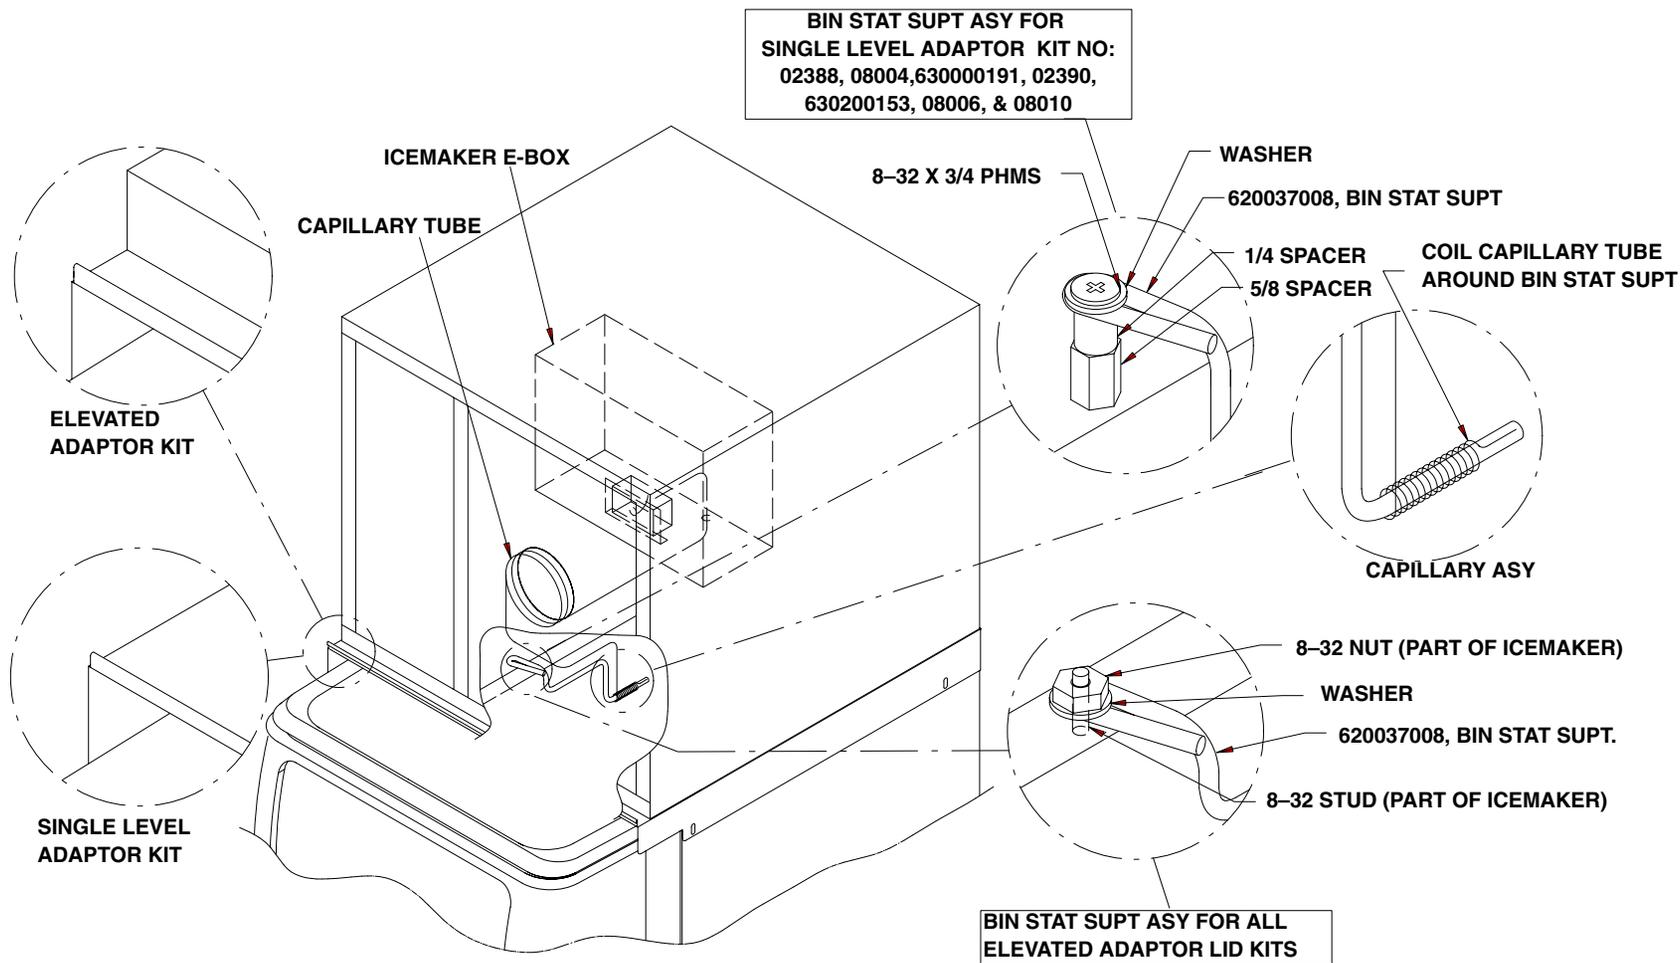

FIGURE 2
7. Remove the 8–32 nut (closest to the 1/2” DIA hole) that holds the compartment wall to the base. The adapter kits that have a single level, adapter kits P/N’s 02390, 630200153, 08006, 02388, 08004, 630000191 and 08010) require a 7/8” high spacer to be used to mount the binstat support. Thread the 8–32 x 5/8” hex spacer on to the compartment stud. Then fasten the thermostat support to the hex spacer using the 1/4” high plastic spacer, #8 flat washer and 8–32 x 3/4” long phil. head screw. **The spacers are not to be used on the elevated adapter kits. Refer to Figure 2.**